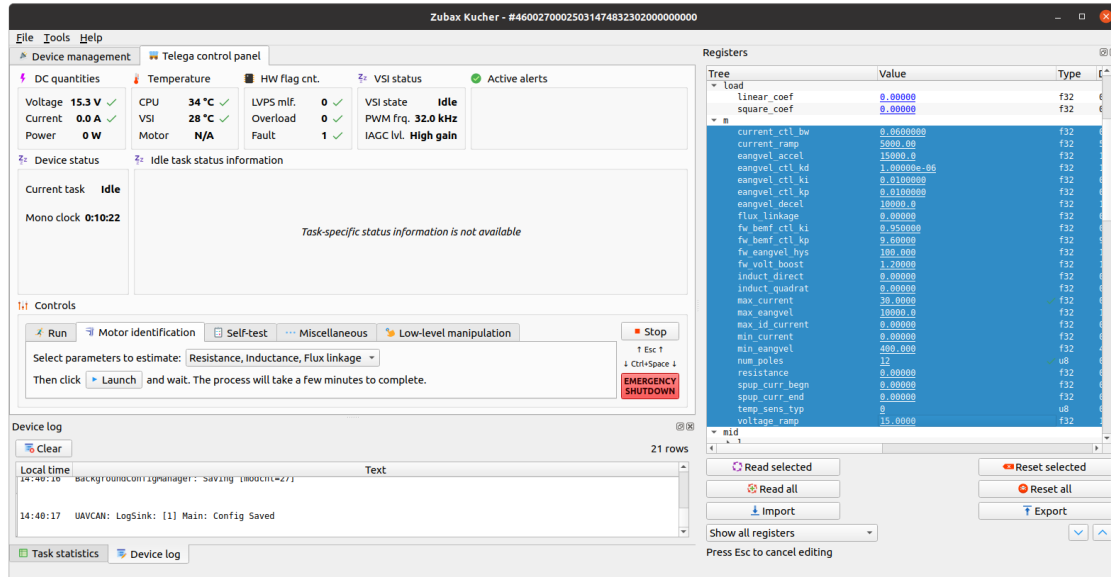

Figure C.2: Writing the motor ID parameters to the ESC using the Kucher interface.
9. After identification is complete, highlight all parameters under the “m” list in the registers panel as shown in Figure C.2.